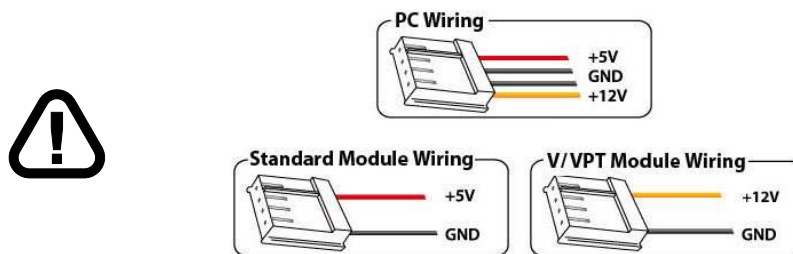

Figure 8: PC vs Matrix Orbital Display Module Wiring
- First, you will want to make sure that you are using the correct power connector. Standard floppy drive power cables from your PC power supply may fit on the Power/Data Connector however they do not have the correct pin out as can be seen in *figure 8 on page 5*. Matrix Orbital supplies power cable adapters for connecting to a PC, which can be found in the *Accessories Section on page 2*.